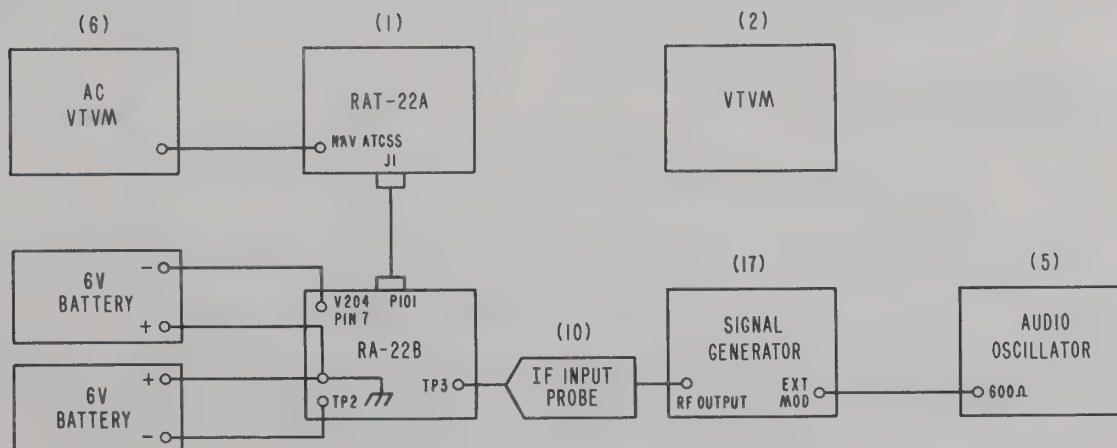

Figure 4-5. Avc Troubleshooting Test Setup
- (1) Connect equipment as shown in figure 4-5.
- (2) Adjust signal generator (17) for 3.775mc, 400 μ v, 30 per cent modulation at 1000 cps.
- (3) Set a-c vtvm (6) to 1-volt a-c scale.
- (4) Adjust test set FREQUENCY SELECTOR for 114.90 mc.